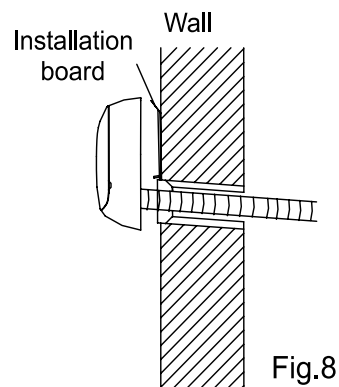

Fig.8
- Mount the indoor unit on the two hooks at the upper part of installation board. (refer to Fig.8)